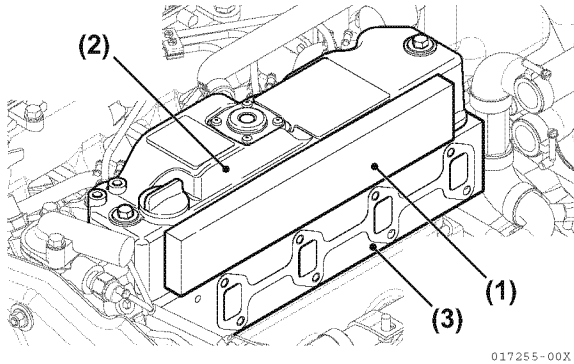
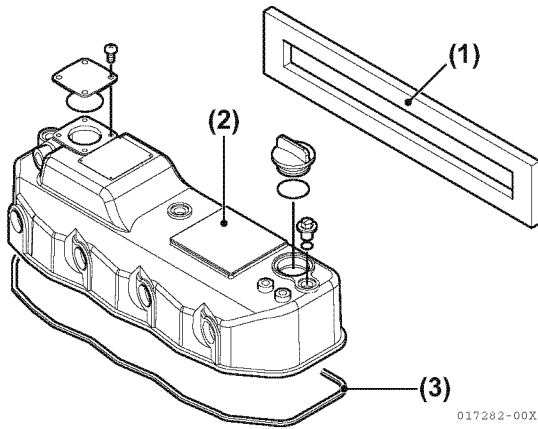

Figure 5-174
Figure 5-175
50. Attach the noise absorber to the rocker arm cover before assembling the heat exchanger for 4JH5E (**Figure 5-174**), and the 3JH5E is similar. For the 4JH4-TE and 4JH4-HTE, see **Figure 5-175**.